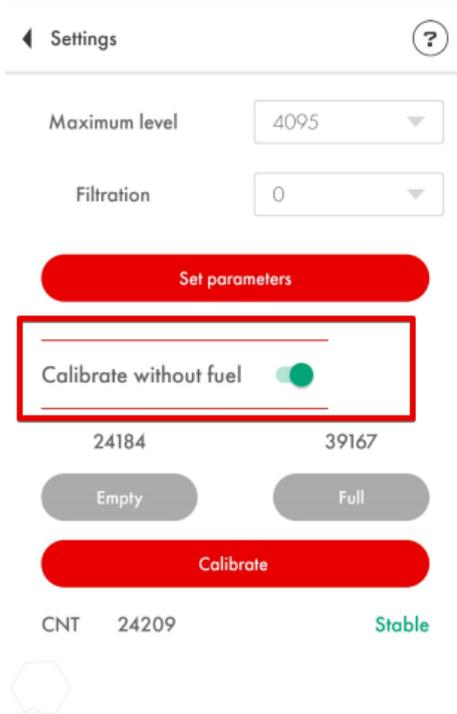
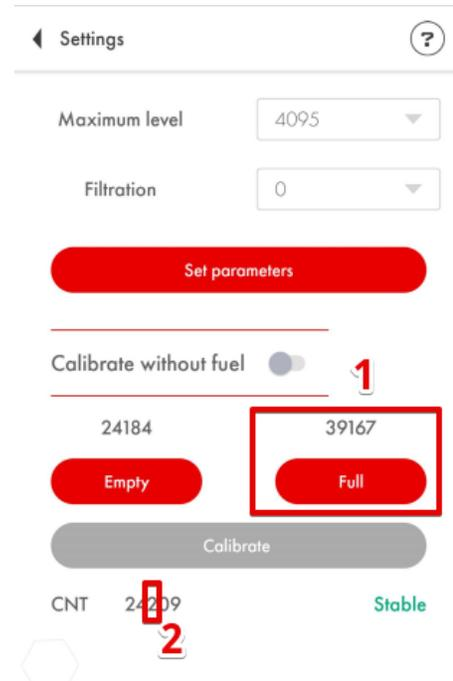

Fig. 19 Deactivate the Calibrate without fuel option
Fig. 20 Press **Full** when the level is stable
- Switch off the **Calibration without fuel** tumbler (Fig. 19) and press the **Full** button (Fig. 20, 1) when the level is **Stable** or the digit before the last two of the CNT value stops changing (Fig. 20, 2)